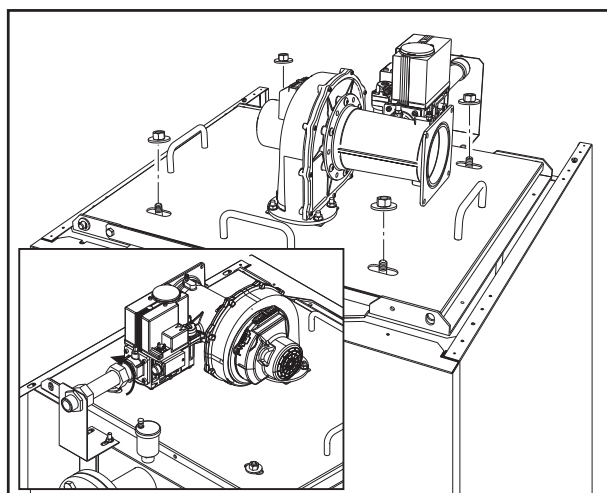

fig. 32
3. Remove the four nuts and washers (fig. 32).
4. Unscrew the gas connection (box fig. 32).
Thoroughly tighten the 4 nuts (fig. 32).